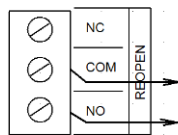

Figure 2 - Reopen Contact Connection
- The REOPEN relay contacts should be connected to the controller as shown in Figure 2 - Reopen Contact Connection. ***N.O. or N.C. depends on the controller being used.***
- The REOPEN relay contacts should be connected to the controller as shown in Figure 2 - Reopen Contact Connection.